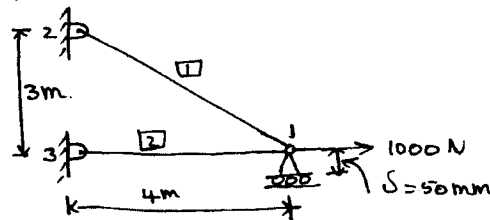

Fig.Q6
- 6 For the two bar truss shown in Fig.Q6, determine the nodal displacements and forces. Assume $E = 200 \text{ GPa}$, $A = 6 \times 10^{-4} \text{ m}^2$.